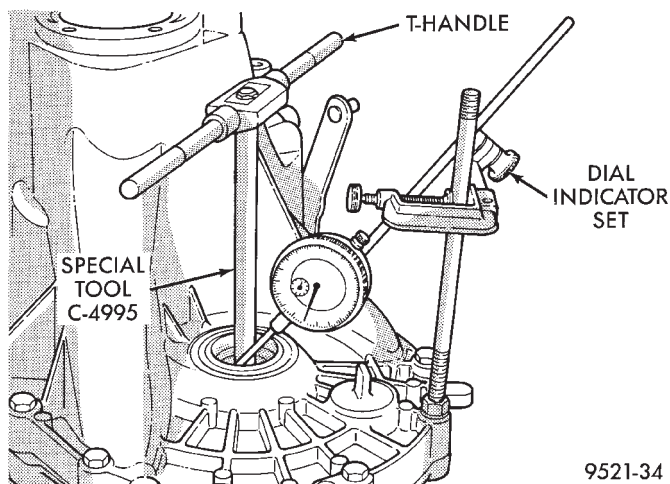

Fig. 151 Checking Differential Bearing End Play to Determine Shim Thickness
(1) Remove bearing cup and existing shim from clutch bellhousing case.
(2) Press in new bearing cup into bellhousing case (or use a cup that has been ground down on the outer edge for ease of measurement).
(3) Press in new bearing cup into gear case side.
(4) Oil differential bearings with Mopar® type M.S. 9417 Manual Transaxle Fluid. Install differential assembly in transaxle gear case. Install clutch bellhousing over gear case. Install and torque case bolts to 29 N·m (21 ft. lbs.).
(5) Position transaxle with bellhousing facing down on workbench with C-clamps. Position dial indicator.
(6) Apply a medium load to differential with Tool C-4995 and a T-handle, in the downward direction. Roll differential assembly back and forth a number of times. This will settle the bearings. Zero the dial indicator. To obtain end play readings, apply a medium load in an upward direction while rolling differential assembly back and forth (Fig. 151). Record end play.